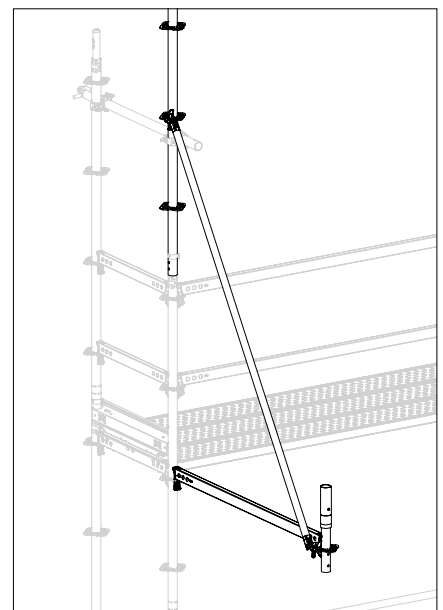

Fig. A4.03d
4. Insert the ledger in the rosette provided on the base scaffold and knock it firmly into place. (Fig. A4.03d)